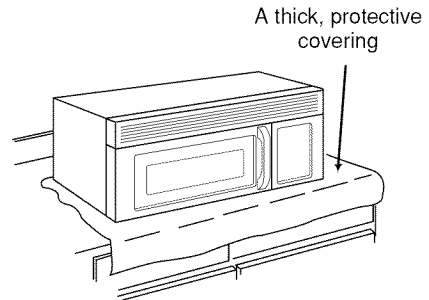

Figure 19
2. Cover the counter top or cooktop with a thick, protective covering to protect it from damage and dirt. See Figure 19.